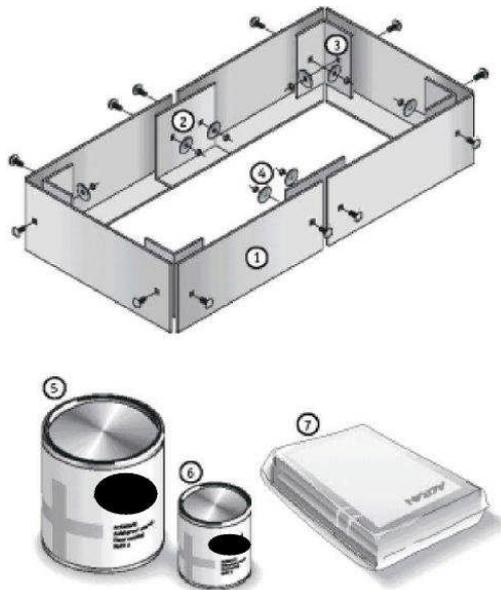

Figure 3.1 – Spill Control Barrier Components
- 5.1 Lay out the Barrier Strips on the floor around the battery stand location in the order demonstrated in Figure 3.1 and lightly bolt the pieces together using carriage bolts, washers, nuts and the appropriate connector plates. Position the barrier around the battery stand location to provide equal clearances on all sides between the battery stand and the barrier. Note that the horizontal flange on all of the barrier strips faces the battery stand (Figure 3.1). This orientation is important both for barrier clearance and liquid-tight integrity.